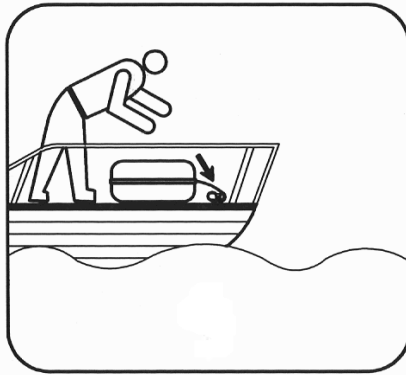

FIGURE 2
5. Pull the painterline out of valise or container about six (6) feet (2m).
6. Secure the free end of painterline to a strong, sturdy attachment point on the vessel such as a hand rail or cleat (See Figure 2).